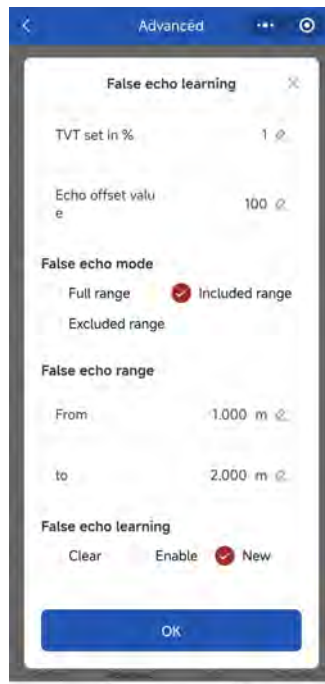

Fig.20 False echo learning
- (1) In the False Echo mode, select “Select Area” ;
- (2) Set the start and end points of the false echo area to 1 meter; set the threshold percentage to 1 and the offset value to 100, as shown in Figure 20;
- (3) In the False Echo Learning section, select Confirm. The new TVT curve will then be successfully created.